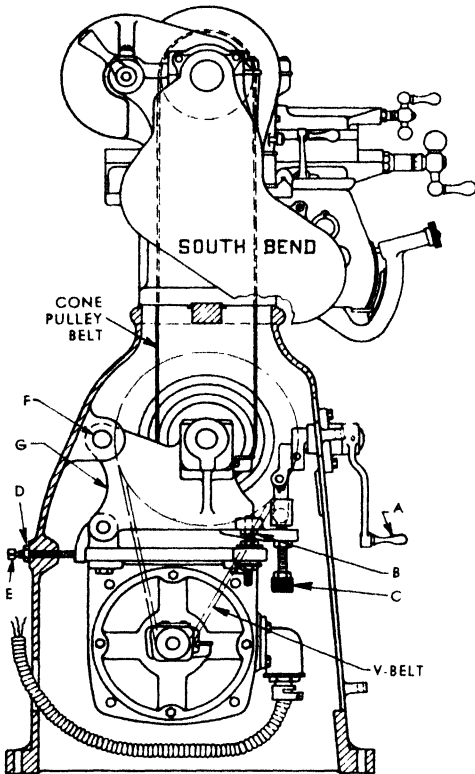

FIG. 47A. SOUTH BEND LATHE DRIVE.
3. The motor and belt drive mechanism of a well known machine lathe is shown in Fig. 47A. The four pulleys on the upper and lower cones are 3", 4.5", and 7" in diameter. The motor pulley is 2" in diameter and the counter shaft driving pulley is 12" in diameter. The motor operates at 1800 r.p.m. Calculate the four speeds at which the work can be turned when the lathe is on direct drive.